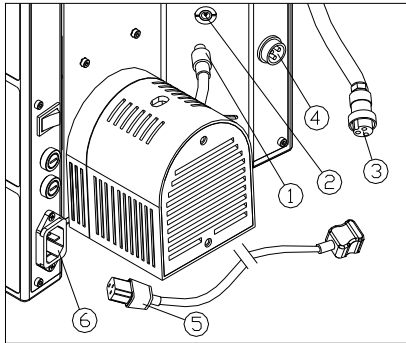

Fig.13
- (1) Make sure the power switch is at "O" (OFF). (see Fig. 13)
- (2) Insert the connector① of light source group into the power socket② of the microscope.
- (3) Insert the aviation plug③ into the aviation socket④ of the microscope.
- (4) Insert one end⑤ of the power cord into the microscope power socket⑥.
- (5) Insert the other end of the power cord into the power supply socket.